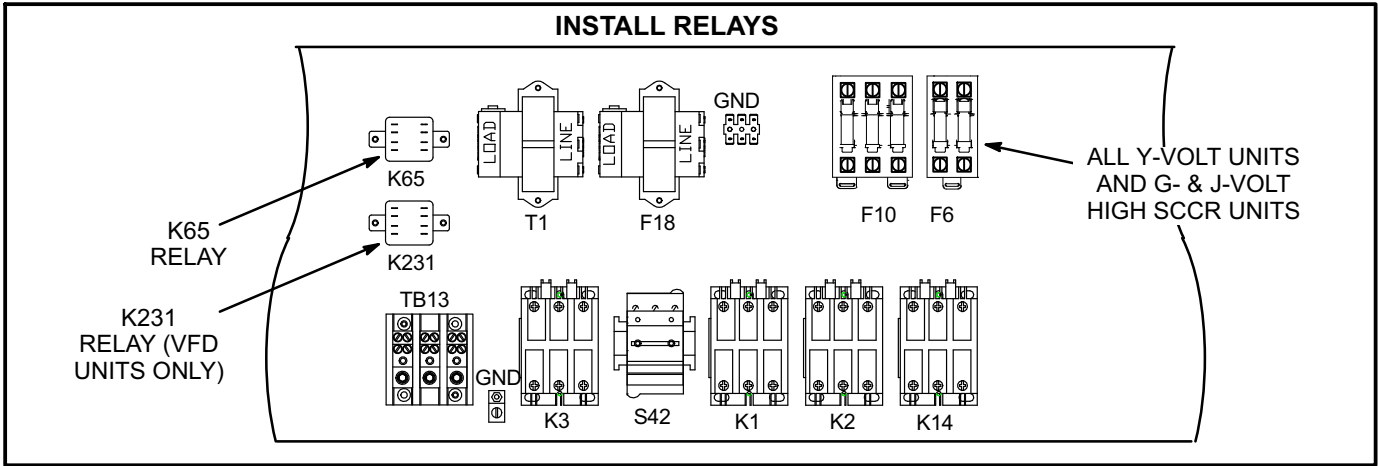

FIGURE 1
- 2- Install K65 exhaust fan relay in unit control box using screws provided. On units equipped with a variable frequency drive (VFD), install K231 in addition to K65. See figure 1.
- 3- *All Y-Volt Units and G- & J-Volt High SCCR Units -* Install F6 fuse block near F10 fuse block. Insert fuses provided. See figure 1.